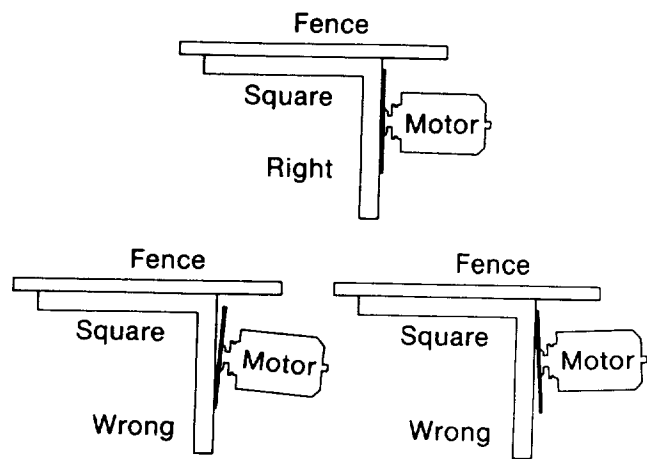

Fig. 111
5. **If** the square is flush with the *blade* after each rotation, no change is needed. (Figure 111) Go to the next section, **or**
If there is a gap between the square and the *blade* after any rotation, go to step 6. (Figure 111)